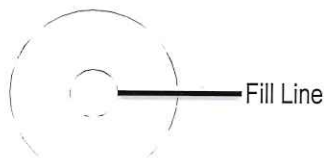

Figure 12
4. Start the unit and run for several minutes. Shut down the air compressor and recheck the oil level. If necessary, add more oil. (Figure 12)